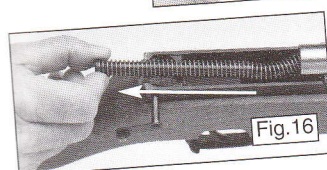

Fig. 16
3. Remove recoil spring assembly (Fig. 16) from rear of bolt and slide the operating handle rearward. The bolt carrier, and bolt can now be removed. Separate the bolt from the bolt carrier.